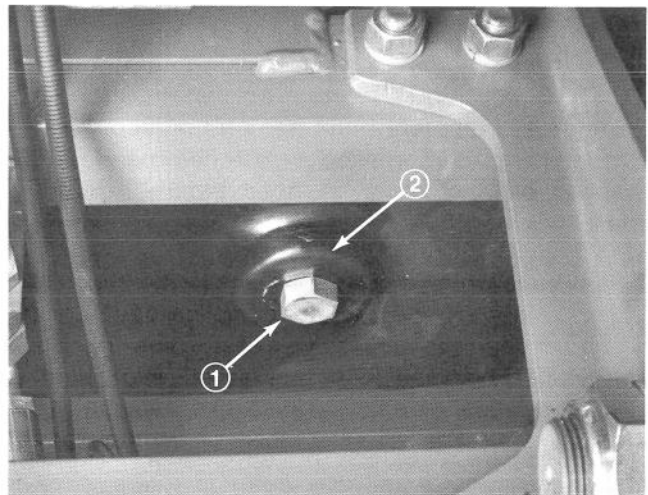

Figure 45
2. Locate plugs at right rear behind front wheel, at rear center and front center of reservoir (Fig. 45).
1. Place drain pan under reservoir. In turn, remove all three (3) drain plugs and let oil drain into pan (Fig. 45).